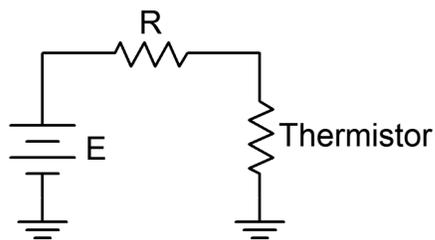

Figure 2
8. Build the circuit of Figure 2 using  $E=10$  volts and  $R=10\text{ k}\Omega$ . Measure the voltage across the thermistor and record it in Table 5 under “Room Temp”.